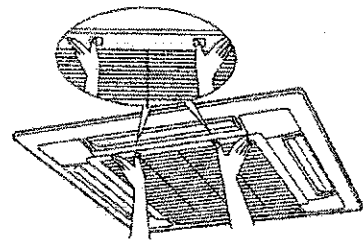

fig 1
1. Open the suction grille: Pull it downward slowly while pressing the buttons provided on two spots, (Do the same procedure for closing.) shown as fig.1